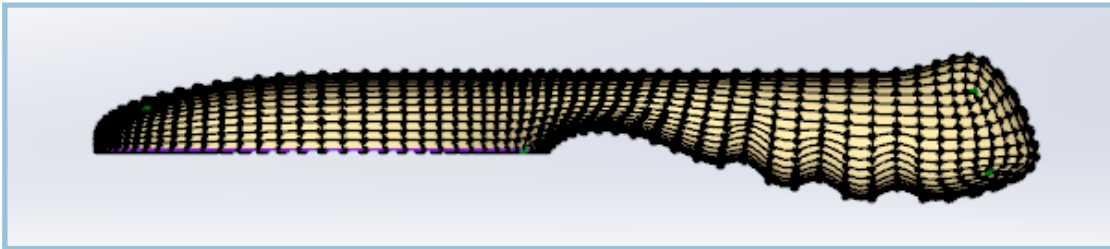

Figure 39 – Editing LOD Three
7. Select Level of Detail Three and add more detail, (Figure 39).